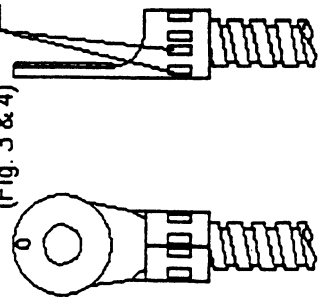

Fig. 3 Fig. 4
- 3) If your Amp Fitting resembles the incorrect version, as in Figure 3 & 4, then the Amp Fitting will have to be swaged again using the following procedure.
(Fig. 3 & 4)